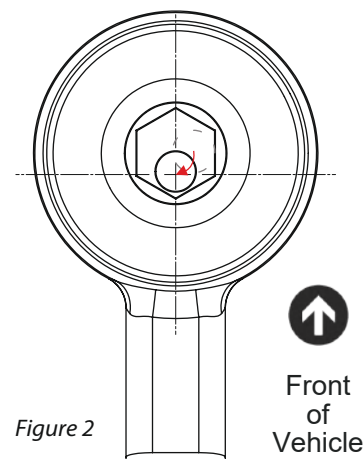

Figure 2
7. For maximum camber use a 26mm spanner to rotate the sleeve so that the bore is positioned as shown in figure 2.